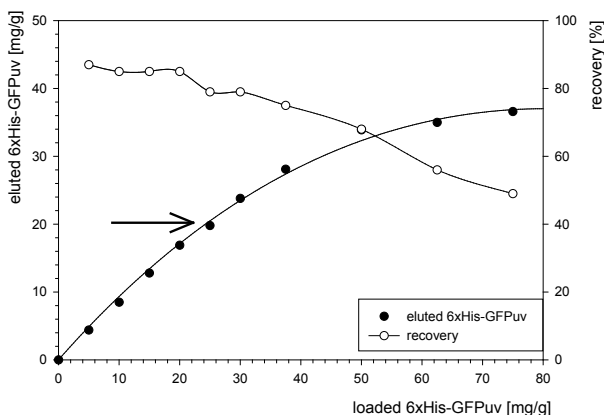
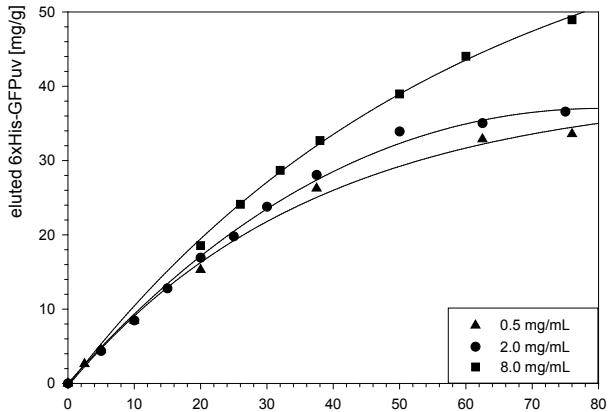

Figure 2 Binding behaviour of 6 x His-GFPuv to Protino® Ni-IDA Resin
Figure 3 Binding behaviour of 6 x His-GFPuv to Protino® Ni-IDA at different concentrations of the polyhistidine-tagged protein in the sample
The binding behaviour of any polyhistidine-tagged protein to Protino® Ni-IDA can be examined by calculating the amount of protein that is eluted as a function of the amount of protein that has been loaded (see Figure 2). Please note that the resulting graph will vary in dependence on characteristics and concentration of the individual His-tag protein. The binding curve can be divided in three stages:
- 1. Stage of maximum recovery.** At this stage the loaded protein is bound to the resin nearly quantitatively and can be eluted nearly quantitatively, too (the binding curve is almost linear, see Figure 2, • eluted His-GFPuv).
Figure 2 shows a plot of the amount of eluted 6 x His-GFPuv against the amount of loaded 6 x His-GFPuv. The binding curve can be divided in three stages:
Under the above mentioned conditions the binding capacity of Protino® Ni-IDA for 6 x His-GFPuv is approximately 20 mg protein per g of resin (see arrow, Figure 2). At this point the protein recovery is > 80 %. Consequently the following amounts of 6 x His-GFPuv have to be loaded: For optimal recovery: load ~ 20 mg protein per 1 g of Protino® Ni-IDA Resin, for maximum yield: load ~ 75 mg protein per 1 g of Protino® Ni-IDA Resin.
Recovery rates and yield can be increased by using samples containing higher concentrated polyhistidine-tagged protein (6 x His-GFPuv). Figure 3 shows that the yield of purified polyhistidine-tagged protein is not only depending on the total amount of target protein loaded on the column (also see Figure 2) but also on its concentration in the lysate. Consequently the concentration of target protein in the sample should be as high as possible.